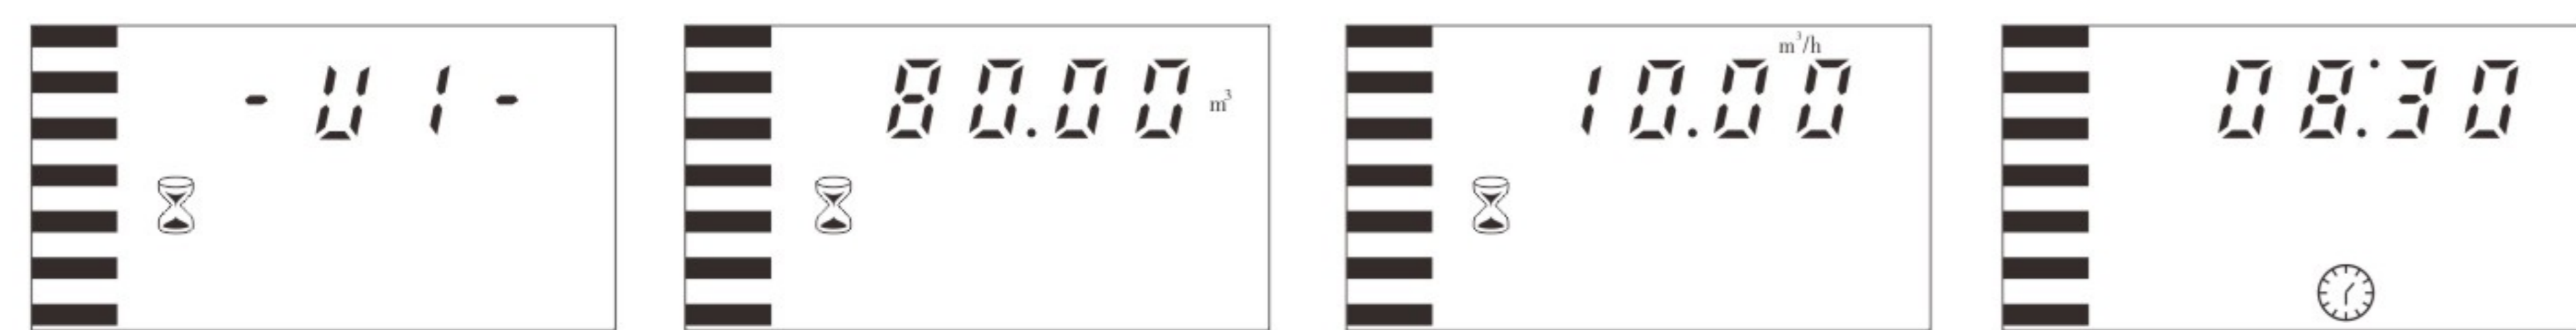

Figure 1A Figure 1B Figure 1C Figure 1D
- When tank U1 in Service while tank U2 is standby: Figure 1A/1B/1C/1D display every 5 seconds in cycle.